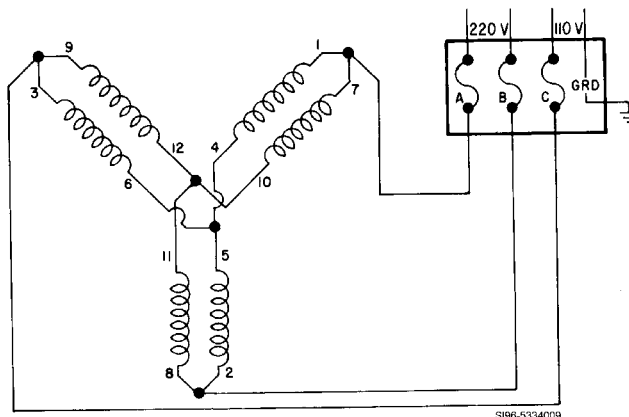

Figure 18, Three-Phase Wye-Connected Motor for Low Voltage
- Figure 18 shows a three-phase wye-connected motor for low voltage (208/220 volts).